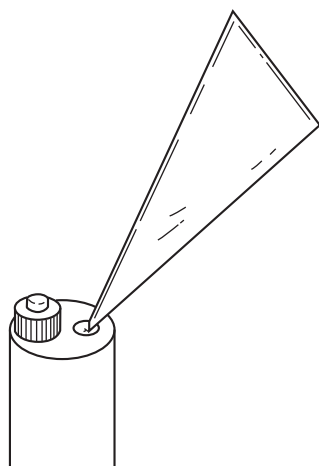

Figure 3.2 Pouring KCl Powder into Sensor
- (2) Remove the sensor from its holder. Wipe off dirty areas on the sensor tip.
- (3) Remove the liquid junction from the sensor. Leave the glass electrode mounted securely.
- (4) Drain the KCl solution in the sensor through the liquid junction mounting hole.
- (5) Wash the inside of the sensor. Pour about a 10 mL KCl solution (or pure Water) into the sensor from the liquid junction mounting hole. Shake the sensor and then drain the solution or pure water completely from the sensor.
- (6) Pour about 10 or 12 grams of powder into the sensor, Use a bag of KCl powder when using the optional KCl solution kit, Cut off the tip of the bag and follow Figure 3.2 below. If the KCl powder has hardened, break it up into pieces. Then do the above.